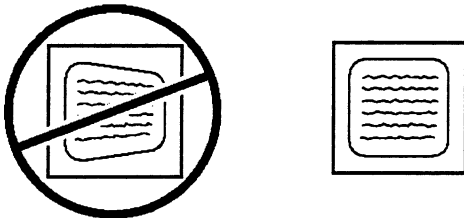

Figure 4-3. Square and Focused Image
7. With all adjustments completed, the image should be perfectly square and focused in all corners. Figure 4-3.